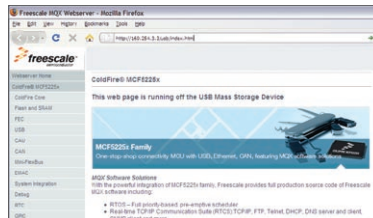

Figure 2: Web demo pages running from the USB memory stick
- Click the "Browse USB Mass Storage Device" link. You should see the Web pages shown in Figure 2, that are located on the USB memory stick.